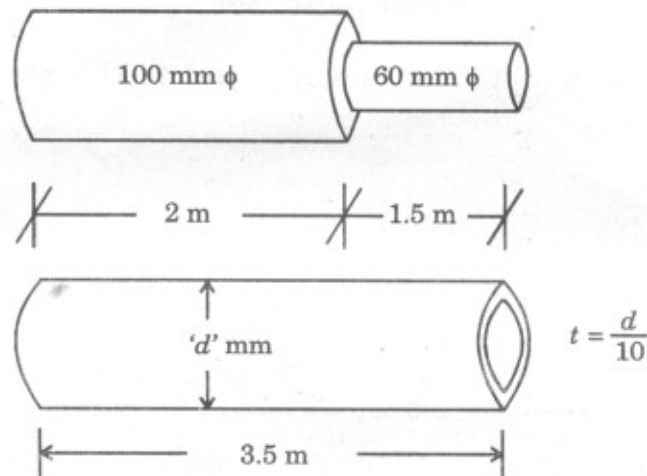

Fig. 5.2
- (b) A shaft of solid cross-section with two different diameters is as shown in Fig. 5.2. Determine outside diameter of prismatic hollow shaft of the same material, equal length and having